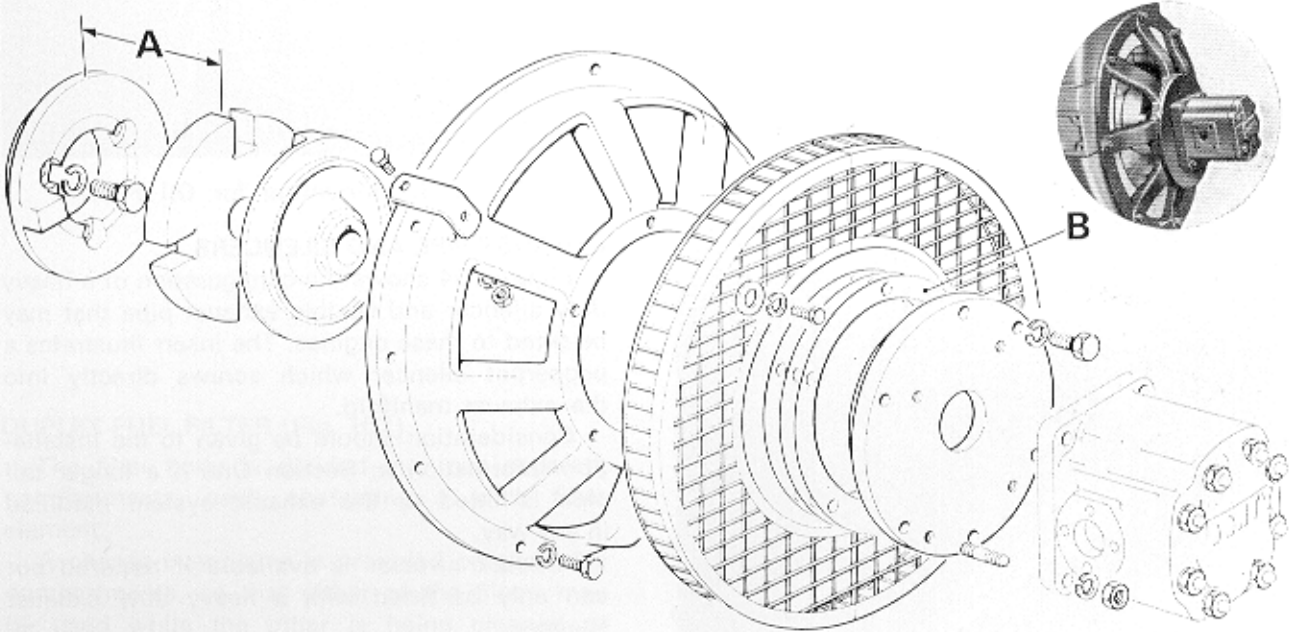

Fig. 102. Hydraulic Pump Mounting—Flywheel End
### Hydraulic Pump Mounting—Flywheel End (Fig. 102)
**IMPORTANT:** When refitting a new or serviced pump, a clearance of 0.8-3.2 mm (1/32"-1/8") must be maintained between the driving member and the coupling disc (item A, Fig. 102). This can be obtained by shims fitted between the adaptor and the mounting plate (item B, Fig. 102).